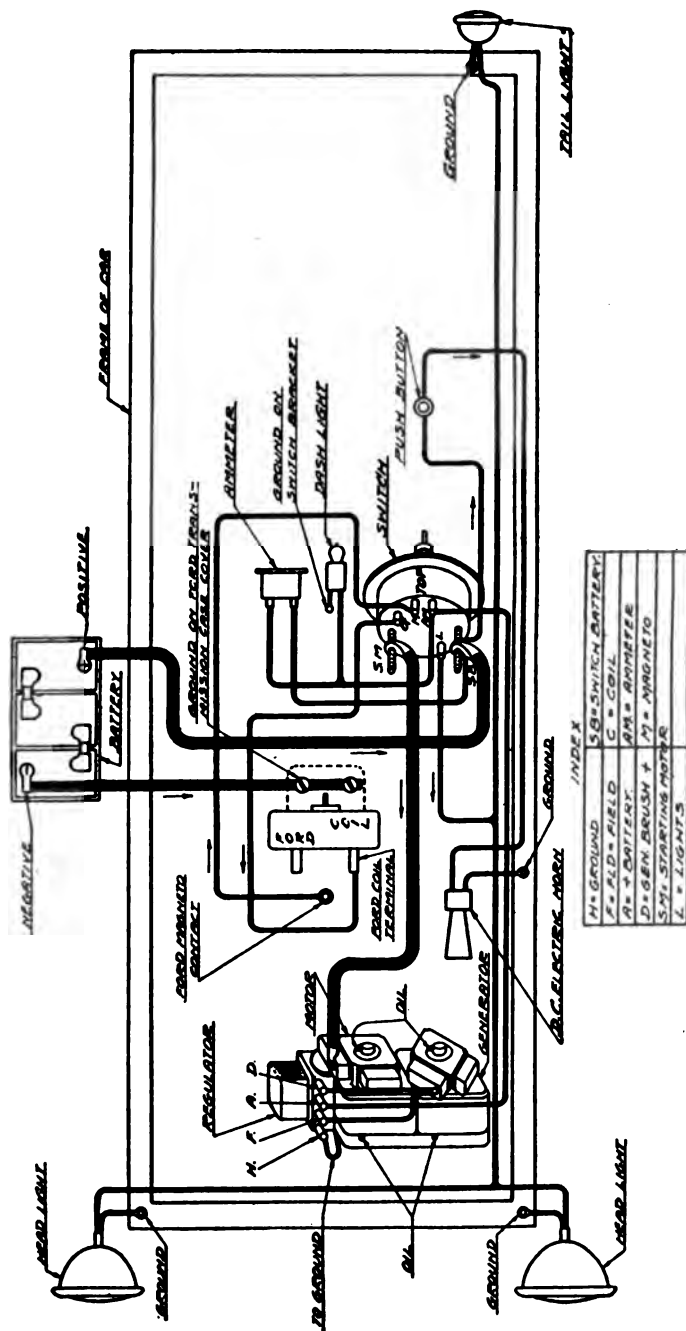

Fig. 400. Wiring Diagram of Heise-Springfield Ford System with Ammeter and Dash Lamp
**Tail and Side Lights, Horn, Etc.** The use of an electric tail lamp is not necessary to the operation of the system. Provision has been made for an electric tail lamp, which is not furnished with the equipment, but, owing to the small additional cost and its great convenience, its use is advised. It should be wired as shown in the wiring diagrams, Figs. 398 and 400. If a single-contact tail lamp is used, it is not necessary to employ the ground wire, as one side of the lamp socket is already grounded to the car frame. In as much as there is embodied in the lighting system a light-dimming resistance for the headlights, which is governed by the combination switch, it is not advisable to convert the oil side lamps to electric. The horn supplied on the Ford (1916 and later models) car is operated by the alternating current from the magneto. This horn may be used without interfering with the starting system, but cannot be operated by the storage battery. If desired, a direct-current horn may be installed and should be connected as shown in Figs. 400 and 401.
**Ammeter and Dash Lamp.** These are not furnished with the system as described, but may be had at an additional cost. This equipment consists of a switch bracket and an ammeter reading to 30 amperes, charge and discharge; a single-contact dash lamp with a self-contained switch and all the necessary wiring. In order to connect the ammeter in the charging circuit, there must be a spring binding post on the back of the combination switch *AM*, Fig. 400. All of the later combination switches of this make are fitted with this binding post. On the back of the combination switch, from the spring binding post *AM* to the round-head screw, there is connected a small flat brass strip. Break this strip connection by cutting in the center, using the pliers or a hack saw. Connect the ammeter and the dash lamp in the circuit, as shown, being very careful to connect the wire